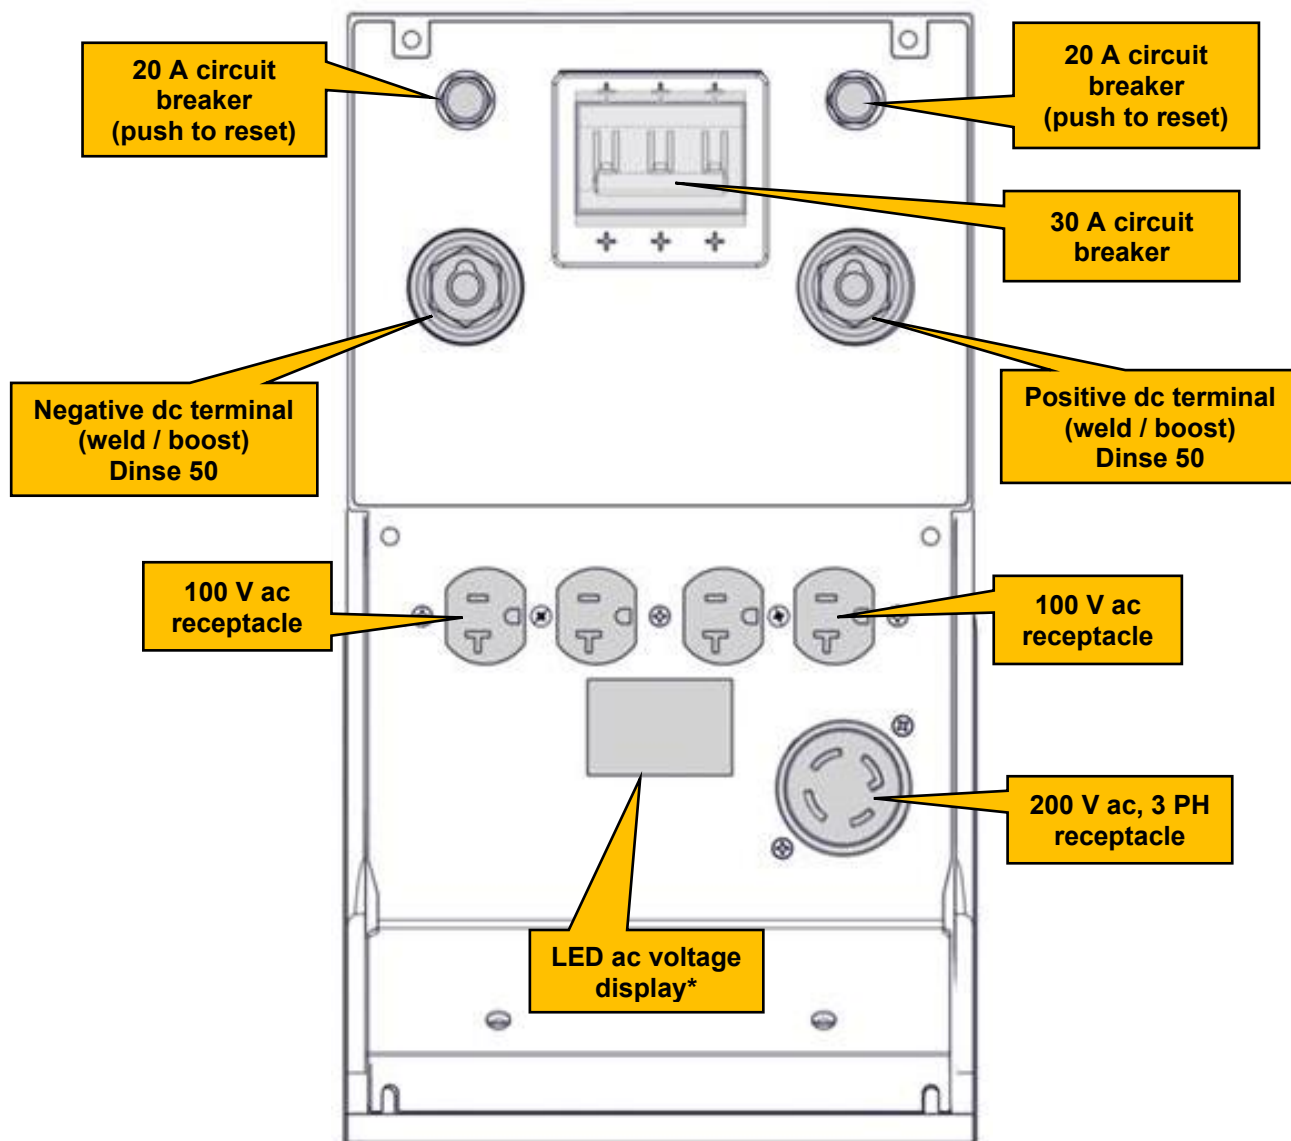

Figure 1
* The generator's LED voltage display (Figure 1) has 5 LEDs that indicate a voltage range between 180 V and 220 V. A flashing 180 V LED is a "low signal indication", meaning generator output is significantly less than 180 V ac.
- ☐ With the Multifunction running, ensure the main breaker is in the ON position, and neither of the 20 A breakers have been tripped (Figure 1).